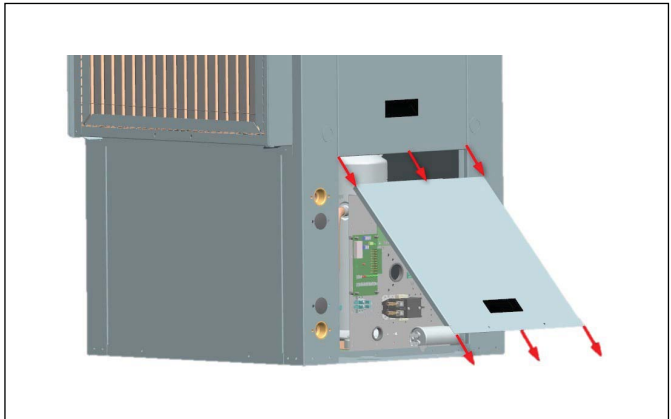

Figure 6
6. Slide out bottom panel (figures 6 and 7).